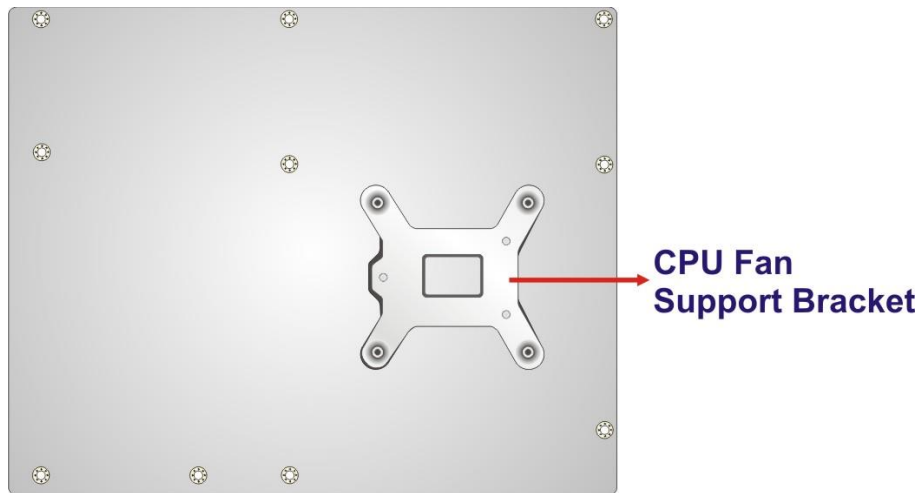

Figure 4-7: Cooling Kit Support Bracket
Step 14: A cooling kit bracket is pre-installed on the rear of the motherboard. See **Figure 4-7**.